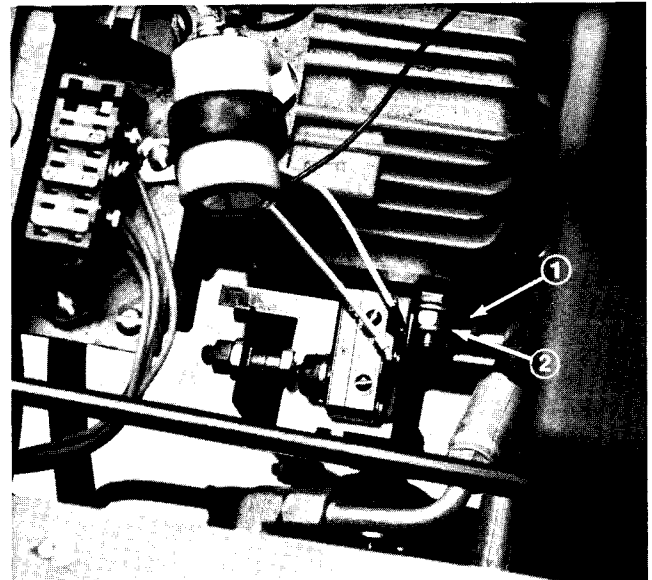

Figure 16
To correct this condition, the swash plate must be adjusted so that it returns to a true neutral (perpendicular) position when the traction pedal is released. This is accomplished by adjusting the position of the pump plate (Fig. 16):
A. Move the throttle to the SLOW position and stop the engine. Slightly loosen the two cap screws that attach the pump plate to the its mounting bracket on the right-hand side of the transmission (Fig. 16).